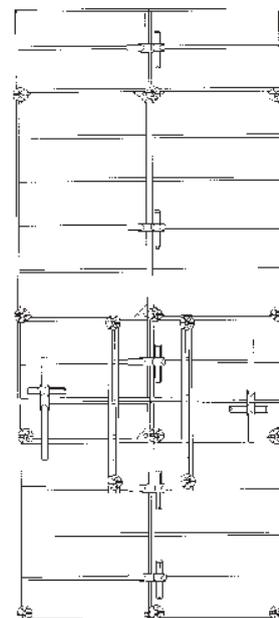

Fig. 2.4
- when setting vertical superstructure boards stiffening beams should be used instead of BM710 locks in order to increase the total formwork stiffness (Fig. 2.4);